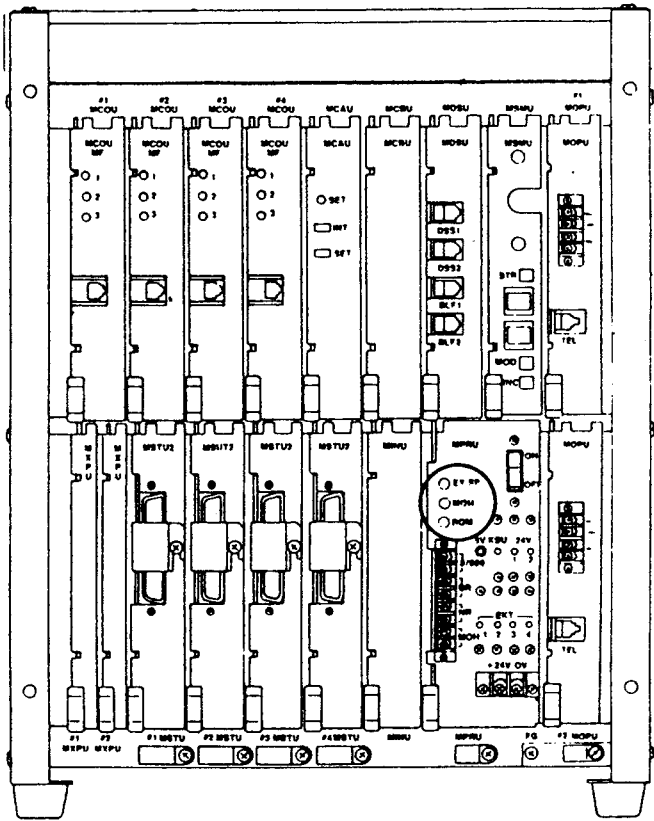

FIGURE 46—VOLUME SETTING CONTROLS
12.81 Refer to Figure 46. Adjust the volume for MOH, BGM and External Page in the following sequence: